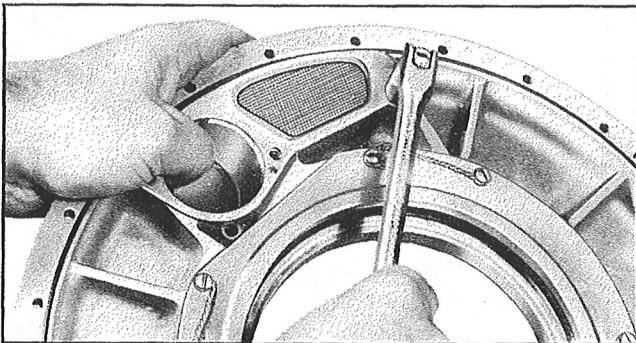

Figure 138—Removal of Oil Pump Screen
Step 17.—On Model A632S-C1 only, remove the  $\frac{5}{16}$ " x 18 balance washer capscrew nearest to the oil pump, as shown in Figure 138. This will allow the oil pump screen to be removed.